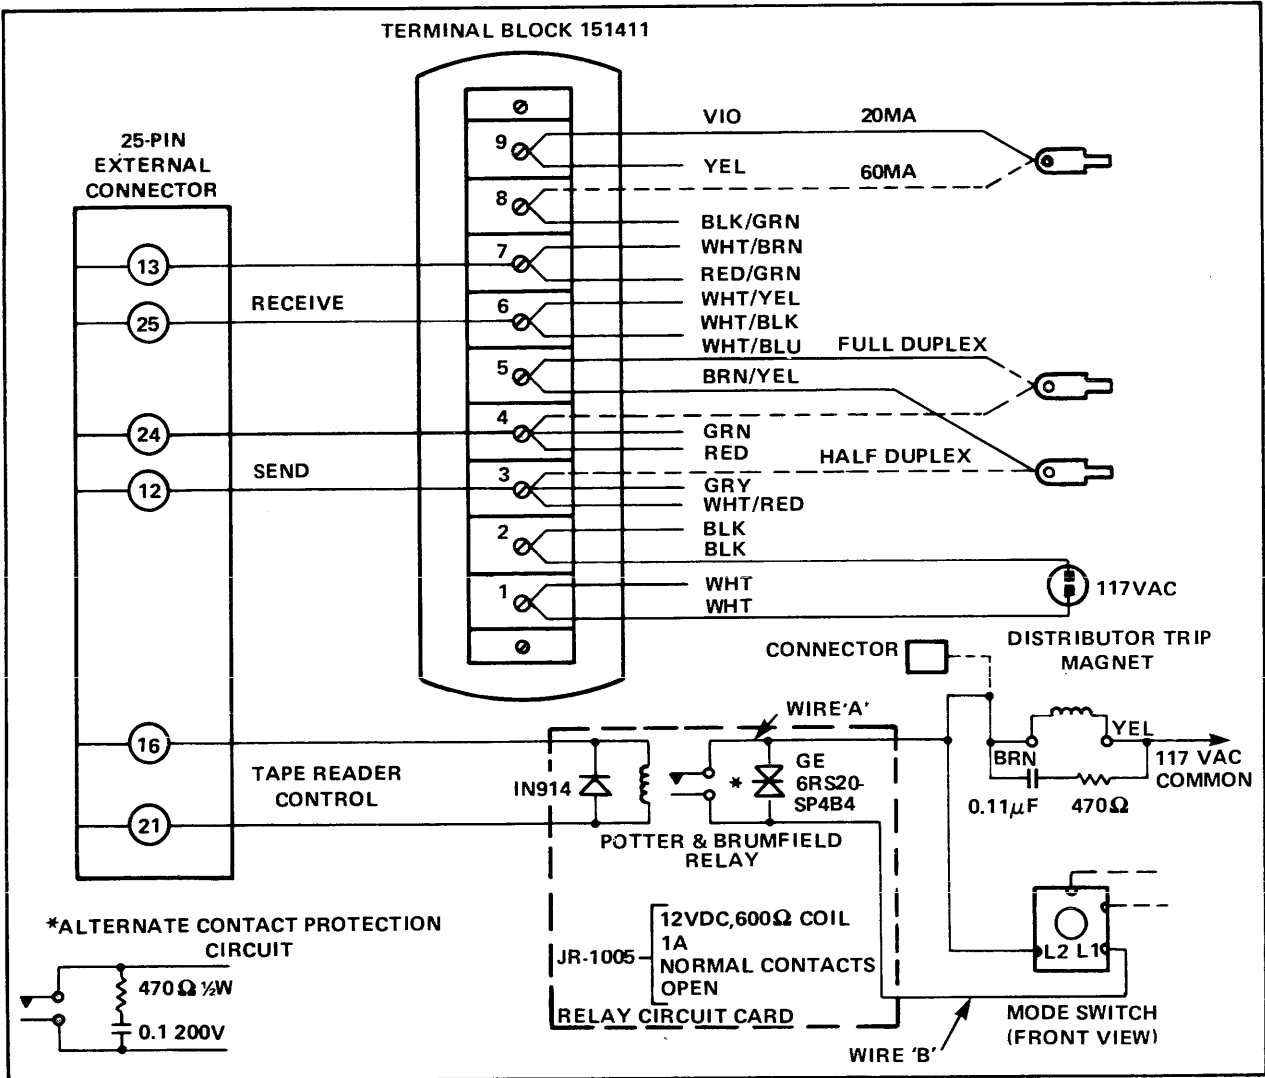
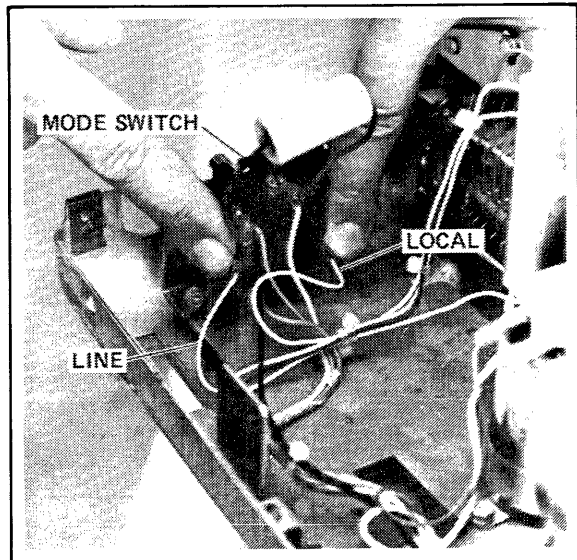

Figure B-4. Teletypewriter Modifications
Figure B-6. Mode Switch
A circuit diagram of the relay circuit card is included in figure B-4; this diagram also includes the part numbers of the relay, diode, and thyristor. (Note that a 470-ohm resistor and a 0.1  $\mu$ F capacitor may be substituted for the thyristor.) After the relay circuit card has been
- a. Refer to figure B-4 and connect a wire (Wire 'A') from relay circuit card to terminal L2 on mode switch. (See figure B-6.)
- c. Refer to figure B-4 and connect a wire (Wire 'B') from relay circuit board to terminal L1 on mode switch.
Connect a two-wire receive loop, a two-wire send loop, and a two-wire tape reader control loop to the external device as shown in figure B-4. The external connector pin numbers shown in figure B-4 are for interface with an RS232C device.